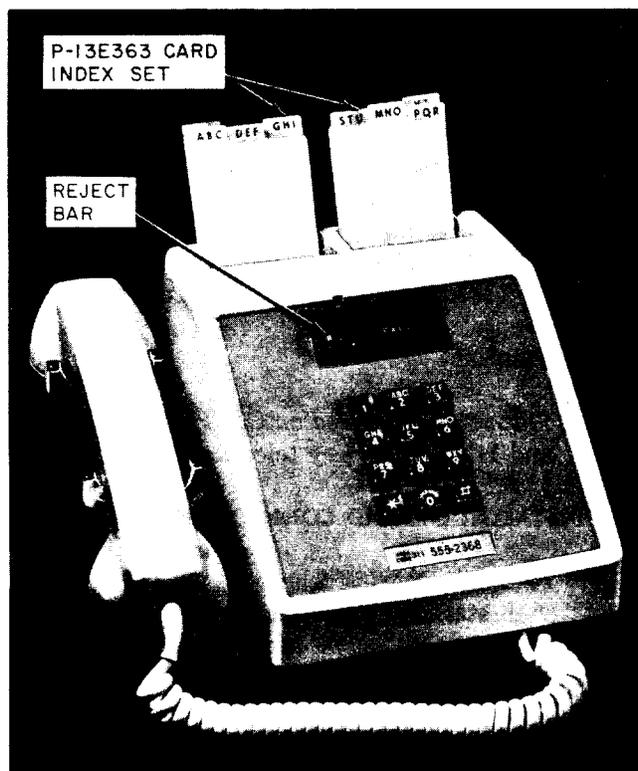

Fig. 1—F-58554 Telephone Set
1.02 The F-58554 telephone set (Fig. 1) is a desk-type, single line card dialer, providing for automatic and manual calling.